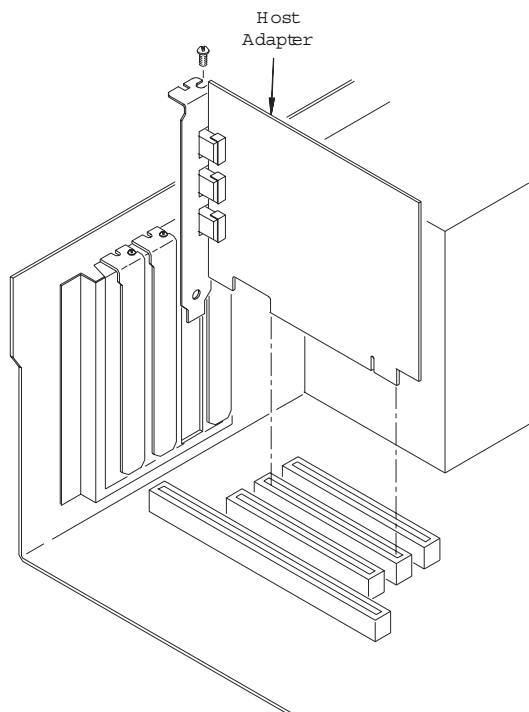

Figure 4-4
4. Align the bus contacts on the bottom of the host adapter with the PCI bus slot. Carefully, but firmly, press the adapter into the slot (Figure 4-4).